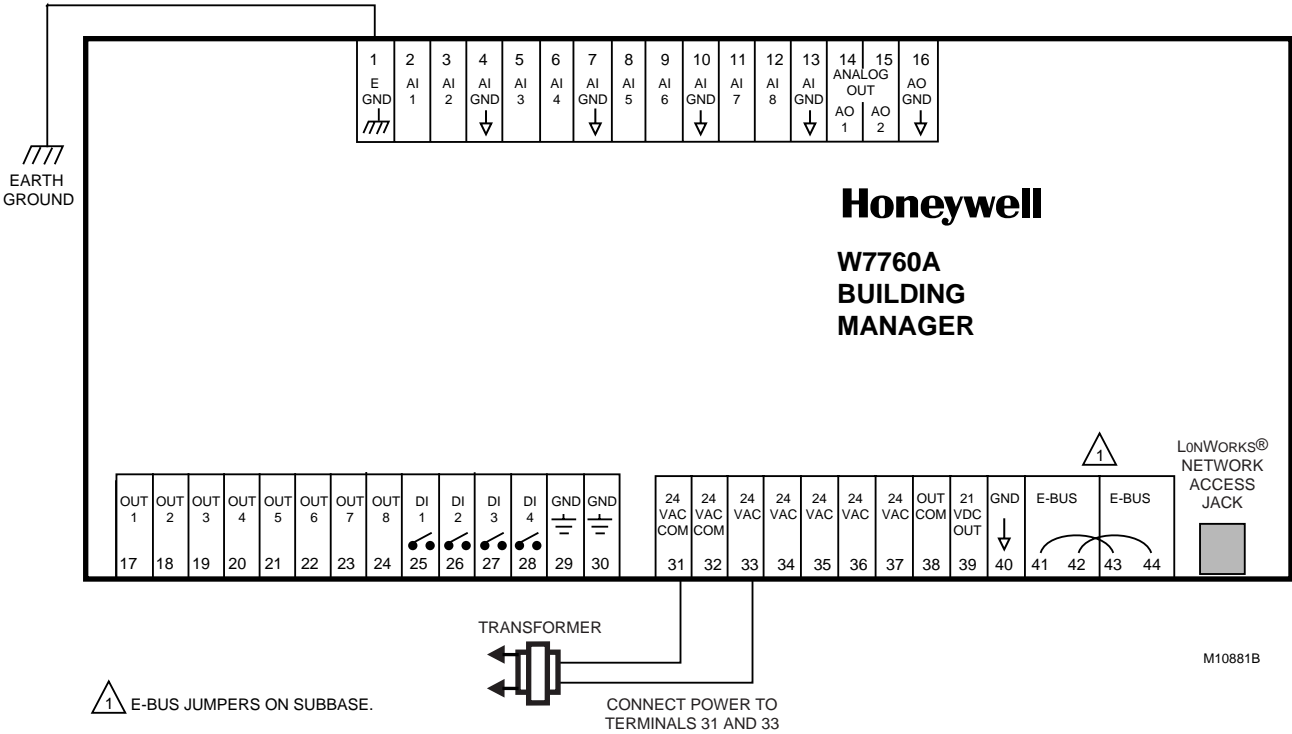
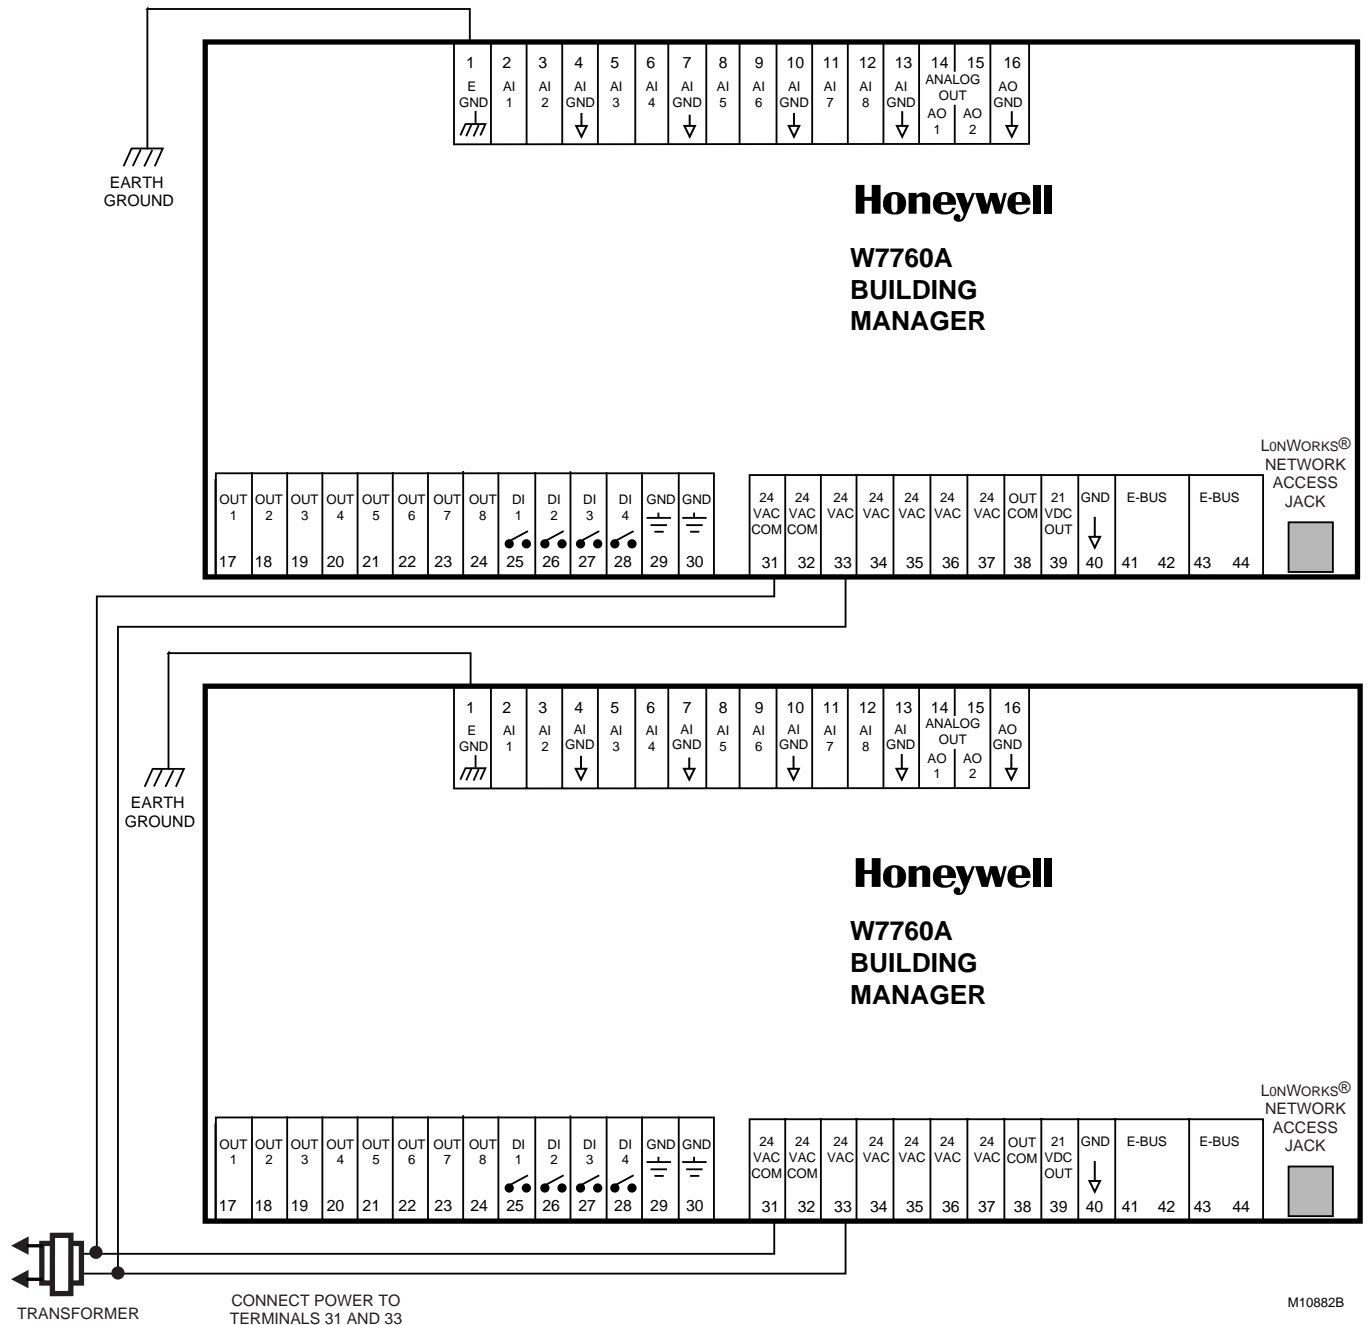

Fig. 7. One W7760A power wiring detail (per transformer).
Fig. 8. Two W7760A power wiring details (per transformer).
- For multiple building managers operating from a single transformer, connect the same side of the transformer secondary to the same power input terminal in each device. Connect the ground terminal (1 on the W7760A) to a verified earth ground for each building manager in the group, see Fig. 8. (W7760A Building Manager configurations are not limited to two devices, but the total power draw including accessories cannot exceed 100 VA when powered by the same transformer (US only). See W7760A System Engineering, form 74-2969, for power wiring recommendations.
- Keep the earth ground connection (terminal 1) wire run as short as possible. Refer to Fig. 7.
- Do *not* connect the analog or digital ground terminals (4, 7, 10, 13, 16), (29, 30), and (40) to earth ground. Refer to Fig. 7.
To conform to Class II restrictions (US only), use 100 VA or smaller transformers, such as the AT88 series. More than one W7760A Building Manager can be powered with a single transformer. See Fig. 7 for power wiring details for a single device and Fig. 8 for multiple devices using one transformer.
If using one set of E-Bus terminals for In connections and one set of E-Bus terminals for Out connections and the Excel 15 is removed, the E-Bus daisy chain will be broken. To make a permanent connection, jumper terminal 41 to 43 and terminal 42 to 44 on the subbase. See Fig. 7, Note 1.
The W7760A Building Manager has a terminal arrangement as shown in Fig. 7. Provide operator access connection to the LONWORKS® network by plugging the Serial LonTalk® Adapter (SLTA) connector into the LONWORKS® Bus jack.
- 24 Vac power connections. Verify that multiple devices powered by the same transformer are wired with the transformer secondary connected to the same input terminal numbers on each W7760A. See Fig. 8. (Building Manager configurations are not limited to two devices, but the total power draw, including accessories, cannot exceed 100 VA when powered by the same transformer (US only). See System Engineering, form 74-2969, for power wiring recommendations.)
- Device wiring. Be sure that each W7760A device is wired (terminal 1) to a verified earth ground using a wire run as short as possible with the heaviest gauge wire available—based on a maximum of 14 AWG (2.0 sq mm) and a minimum of 18 AWG (1.0 sq mm)—for each building manager in the group. See Fig. 7.